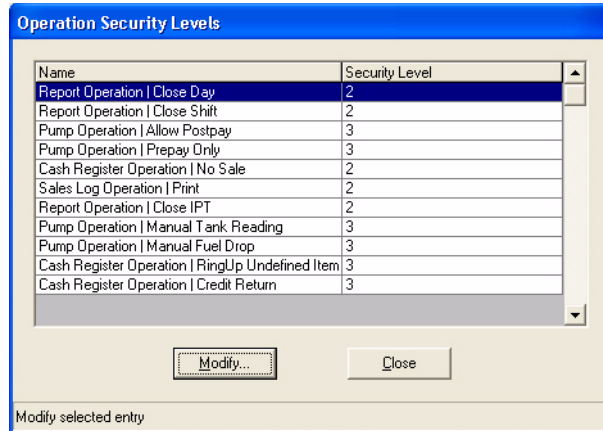

Figure 6-4 Operation Security Level Window
1. From the Programming Access window select **Security > Operations**. The Operation Security Levels window opens as shown in Figure 6-4 below.